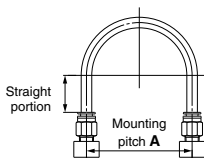

Fig. 1 Recommended piping configuration
- When connecting tubes using One-touch fittings, provide some spare tube length shown in Fig. 1, recommended piping configuration.